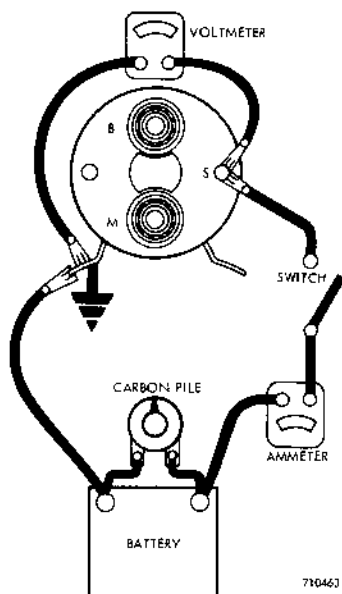

Figure 9 - Hold-in Winding Test
1. Make the test connections as shown in Figure 9.